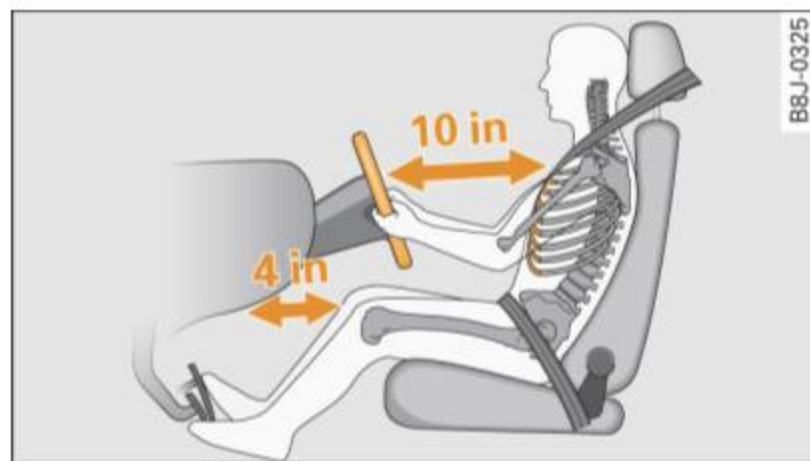

Fig. 143 The correct distance between driver and steering wheel
- Adjust the steering wheel so that there is a distance of at least 10 inches (25 cm) between the steering wheel and your breast bone ⇒ fig. 143. If not possible, see your authorized Audi dealership about adaptive equipment.